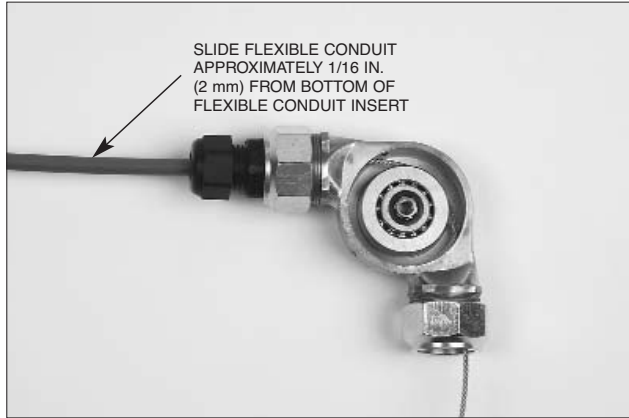

FIGURE 62
- Slide the flexible conduit into the strain relief until it is approximately 1/16 in. (2 mm) from the bottom of the flexible conduit insert. See Figure 62.